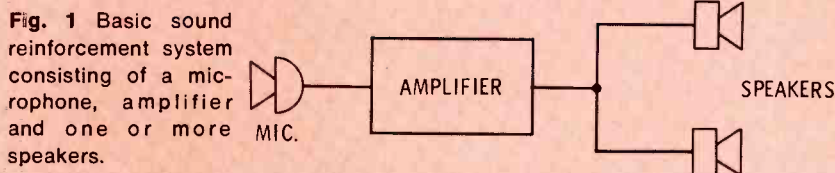
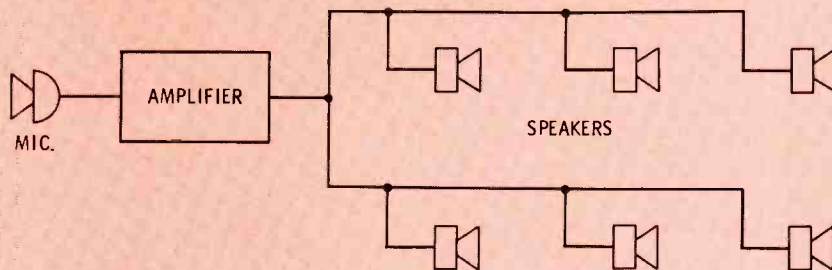
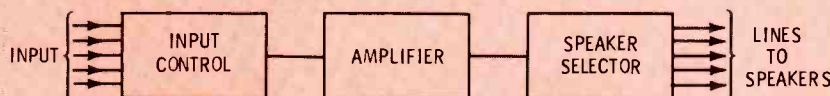
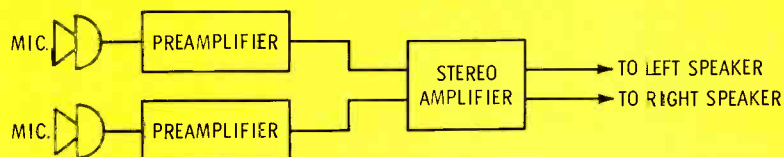

Fig. 1 Basic sound reinforcement system consisting of a microphone, amplifier and one or more speakers.
Fig. 2 Paging or sound distribution system delivers sound to other rooms or buildings.
Fig. 3 Block diagram of basic central sound system, which has two or more input signal sources and distributes sound on a controlled basis into various rooms.
Fig. 4 Stereophonic public address system utilizes two independent sound channels.
The simplest public address (PA) system consists of a microphone, amplifier and one or more speakers, as illustrated in Fig. 1. If the mike and speakers are in the same room, it is a **sound reinforcement system**. When the amplified sound is delivered to other rooms, as shown in Fig. 2, it is a **paging or sound distribution system**. When there are two or more input signal sources, and sound is distributed on a controlled basis into various rooms, as shown in Fig. 3, it is a **central sound system**. And when two independent sound channels are provided (Fig. 4), with both channels reproduced in the same room, it is a **stereo public address system**.